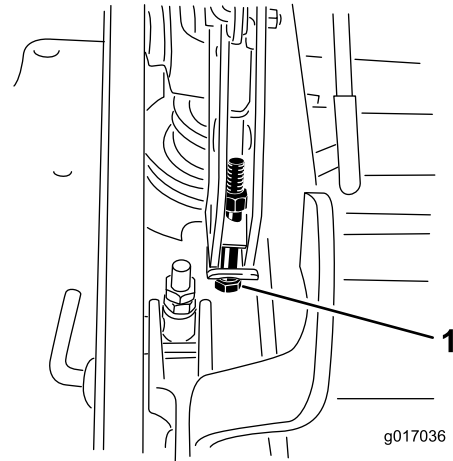

**Figure 93**
10. If needed, loosen the flanged locknut on the side of the yoke and the jam nut on top. Fine-tune the adjuster screw by turning it to get 7.6 mm (3 inch) height (Figure 93).
16. Fine-tune the adjuster screw by turning it to get 8.3 mm (3-1/4 inches) height (Figure 93).